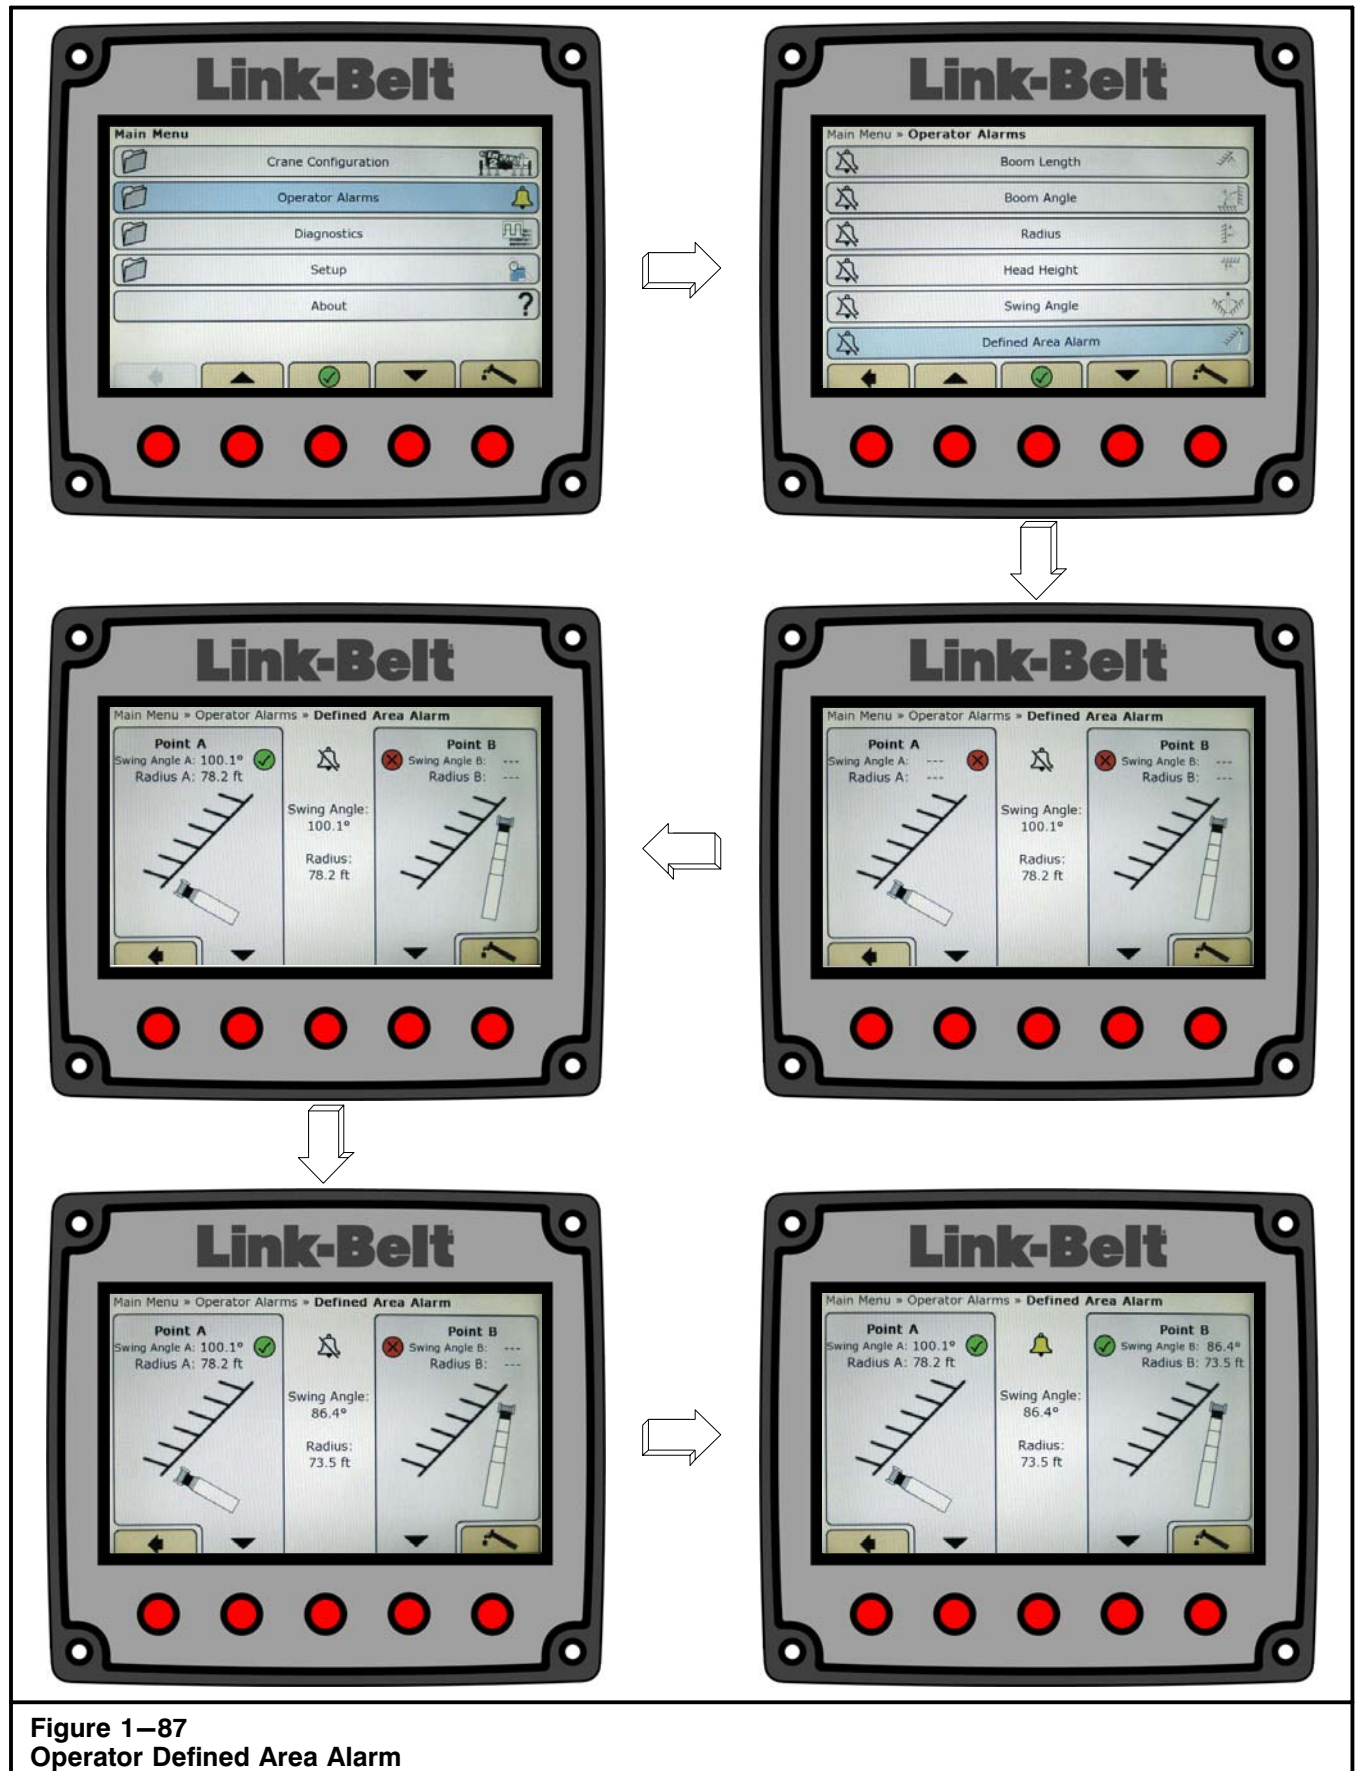

Figure 1—87
The operator defined area alarm, when set, will define an imaginary vertical plane between two set points to optimize the working area. When approaching the plane, the audio alarm will sound intermittently, and the message "Approaching Defined Area" will appear in the warning message area. When passing the plane, the audio alarm will sound continuously and the message "Defined Area" will appear on the warning message area. Use the following procedure, Figure 1–87, and Figure 1–88 to set the operator defined area alarm.
1. From the normal working screen, press the Main Menu button . Refer to Figure 1–81.